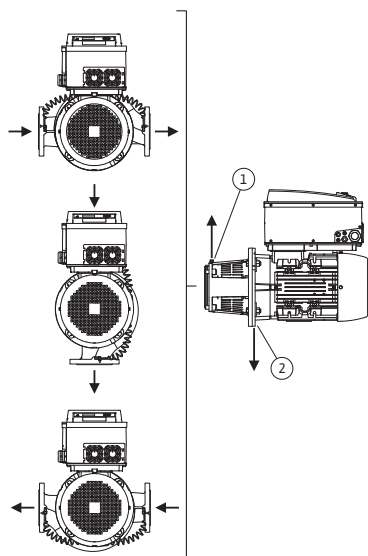
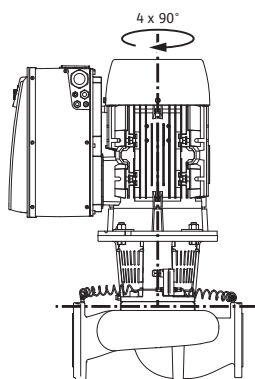

Fig. 18: Permitted installation positions with horizontal motor shaft
Fig. 19: Permitted installation positions with vertical motor shaft
The permitted installation positions with horizontal motor shaft and electronic module facing up (0°) are shown in Fig. 18. The permissible installation positions with electronic module mounted on the side ($\pm 90^\circ$) are not shown. Any installation position is allowed except for “electronic module facing down” (-180°). The venting of the pump is only ensured when the air vent valve is pointing upwards (Fig. 18, Item 1). Only in this position (0°) can condensate be directed away via existing drilled holes, pump lantern and motor (Fig. 18, Item 2). Remove the plug from the motor flange.
The permitted installation positions with vertical motor shaft are shown in Fig. 19. All installation positions except for “motor facing down” are allowed.
- The air vent valve at the lantern (Fig. 6, Item 1.31) must always face upwards if the motor shaft is horizontal (Fig. 6a: and Fig. 6b:). If the motor shaft is vertical, any orientation is permitted. See also Fig. 18: "Permitted installation positions with horizontal motor shaft" on page 89 and Fig. 19: "Permitted installation positions with vertical motor shaft" on page 89.
- With a horizontal motor shaft, the condensate hole must be positioned towards the bottom (Fig. 18, Item 2). If necessary, the motor must be turned accordingly.